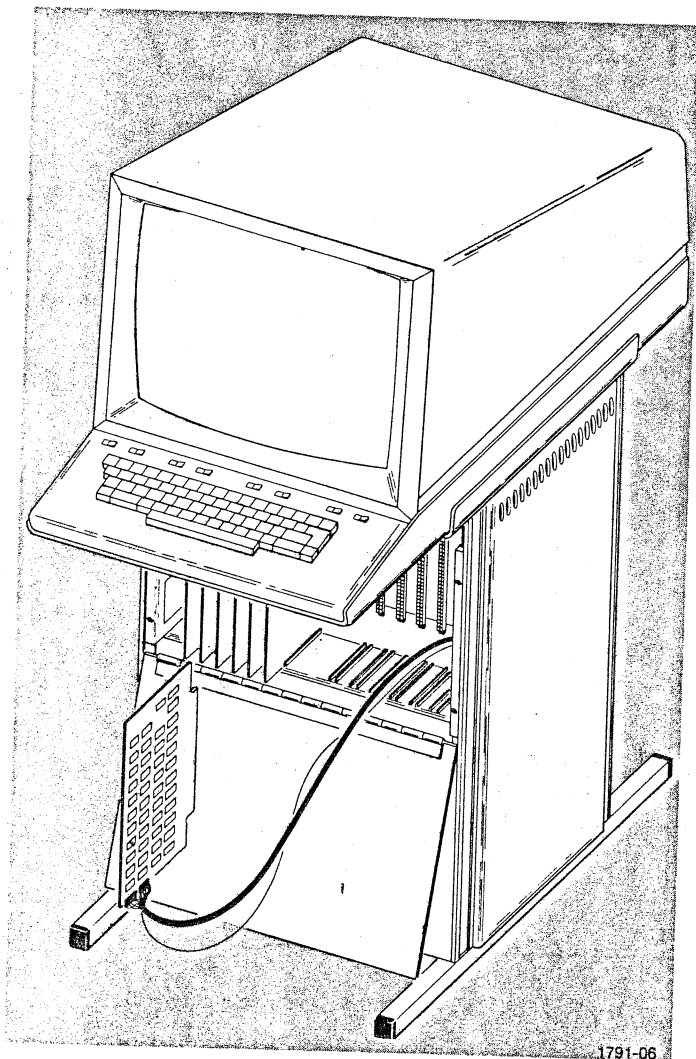

Fig. 2-3. Installing the Tablet Control Card.
4. Install the Tablet Control card into a spare slot in the terminal minibus. Thread the cable from J1010 on the Power Module through the access slot on the rear of the terminal pedestal, then attach the two harmonica connectors (P231 and P232) to their positions on the Tablet Control card (Fig. 2-3). (Make certain that pin 1 of each connector aligns with pin 1 of the card connectors; they are marked with small carets.) Connect the ground lug to the ground spades under the card rack within the terminal pedestal.